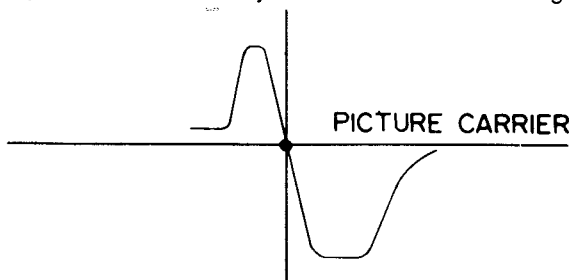

Figure 3 (AFT Alignment Waveform)
- Adjust L102 so that it may be the same as shown in figure 3.